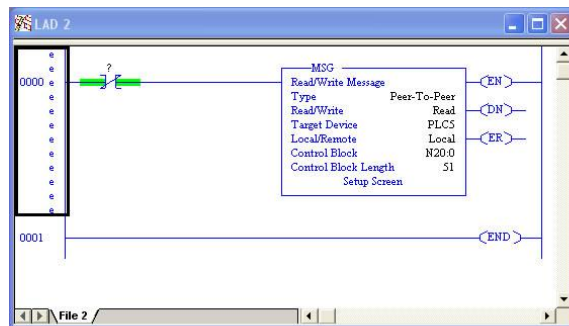

Figure 56: PLC Program after MSG Instruction Configuration
- f) Close the dialog box. At this point, the program should appear as shown in Figure 56.